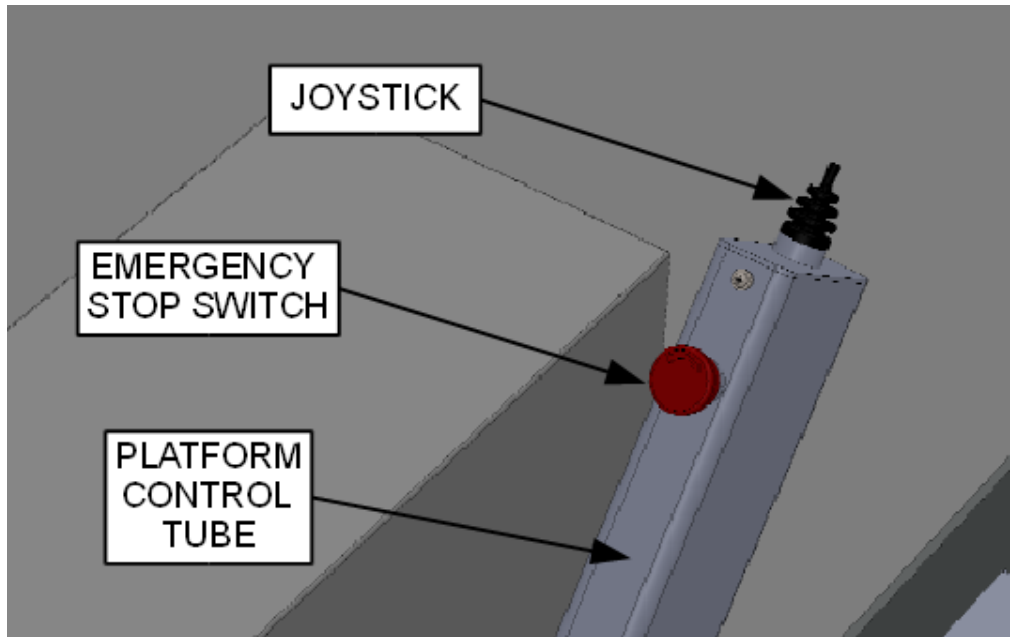

Figure 1: Platform Controls
- A. **Joystick:** The primary control is a three-position joystick mounted on the control tube, within easy reach of the wheelchair user (see Figure 1). The switch's center position is off. Tilt the switch toward the top of the stairs to go up. Release it to stop the platform. Tilt the switch toward the bottom of the stairs to go down.
- B. **Emergency Stop:** Push the button (see Figure 1) to stop or disable the lift and pull it out to start or enable the lift again. The Emergency Stop button will latch when pushed in, and must be manually pulled back out. *The lift will stop **very suddenly**.*